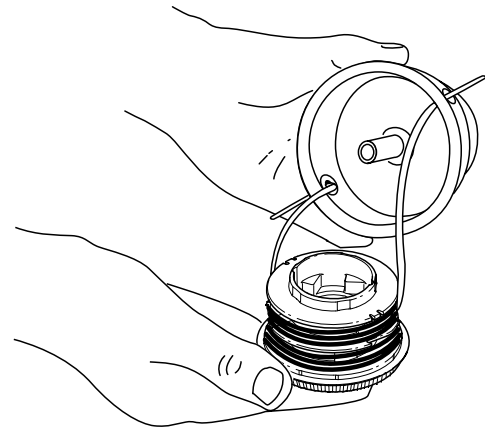

Fig. 23
- Insert the ends of the prewound inner reel line into the outer spool eyelets (Fig. 23). Push the new inner reel, arrow side up, into the outer spool.